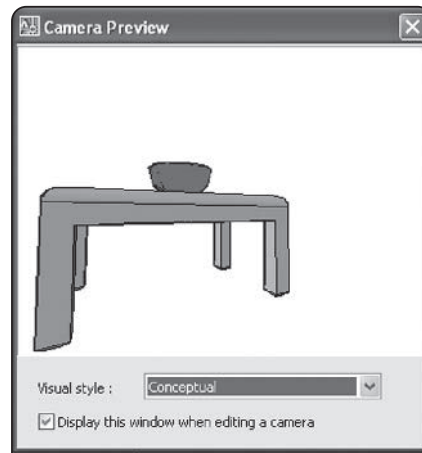

Fig. 47-7
10. Click and drag one of the grips to increase the camera's field of view until the entire table is displayed in the preview pane, as shown in Fig. 47-7.